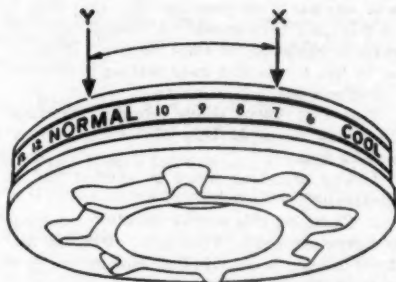

Fig. 2—Used for 1940 and 1941 Dual-Temp Models 660, 860, 661, 671, 861 and 871.
6. When "click" is heard, you have found the coldest position that will allow contacts to open when bulb is immersed in ice. Compare this setting with Figs. 2 and 3 to determine whether the cut-out setting is correct.
If dial must be set to some position outside of this region in order to get the click, setting is incorrect. Adjust range as shown in Fig. 2.
2. If "click" occurred when knob (or dial) was set colder than position "Y" (see Fig. 2 or 3), then turn adjusting screw "A" about  $\frac{1}{4}$  turn clockwise to lower the setting. Recheck as in No. 1. Repeat until setting is correct.
was warmer than position "X" (see Fig. 2 or 3), then turn screw "A" about  $\frac{1}{4}$  turn counter-clockwise to raise setting. Recheck as in No. 1. Repeat until setting is correct.